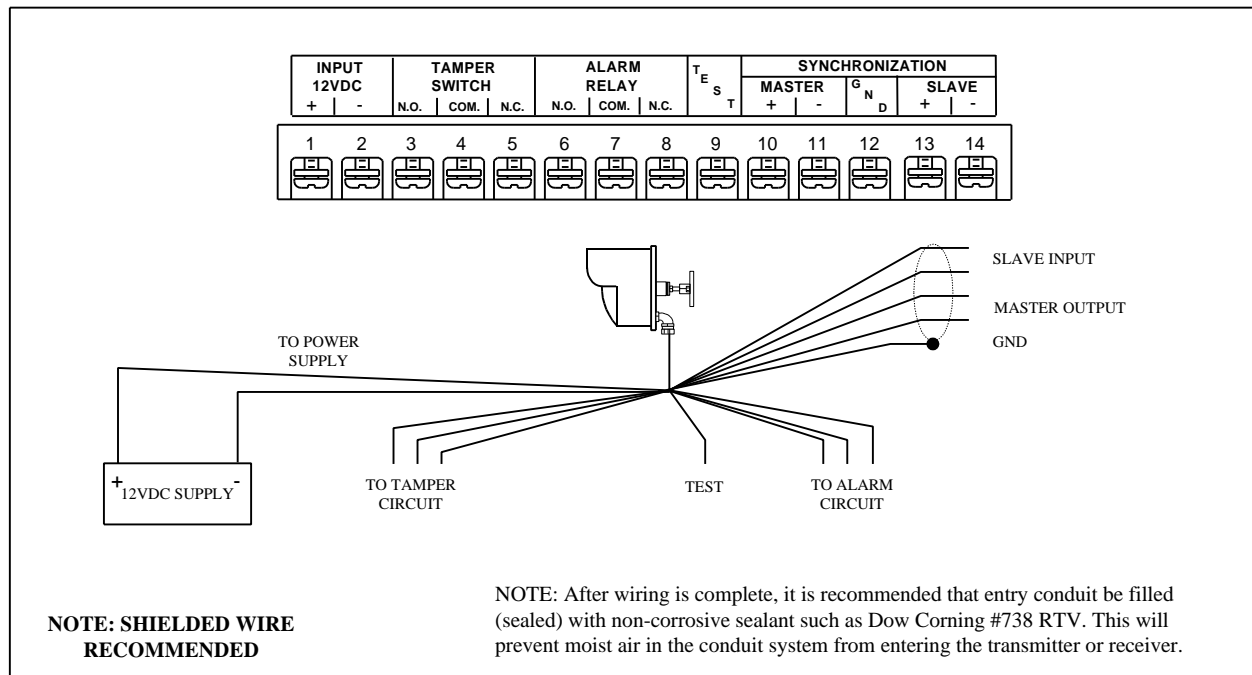

Figure 15
Southwest Microwave recommends two optional power supply combinations. Model PS50 .3 Amp Power Supply with Model BA30 6.5 AH battery will power one Model 380 Transceiver. Model PS50 may be mounted either indoors or outdoors in a weatherproof enclosure such as Southwest Microwave Model BX15. Model PS40 1.6 Amp Power Supply with Model BA30 6.5 AH battery will power up to six Model 380 Transceivers (with proper wiring per Figure 15). Model PS40 may be mounted either indoors or outdoors in a weatherproof enclosure such as Southwest Microwave Model BX20 or BX35.
- 3) Make connections to the terminal strip according to labeled terminal functions. (See Figure 15.)